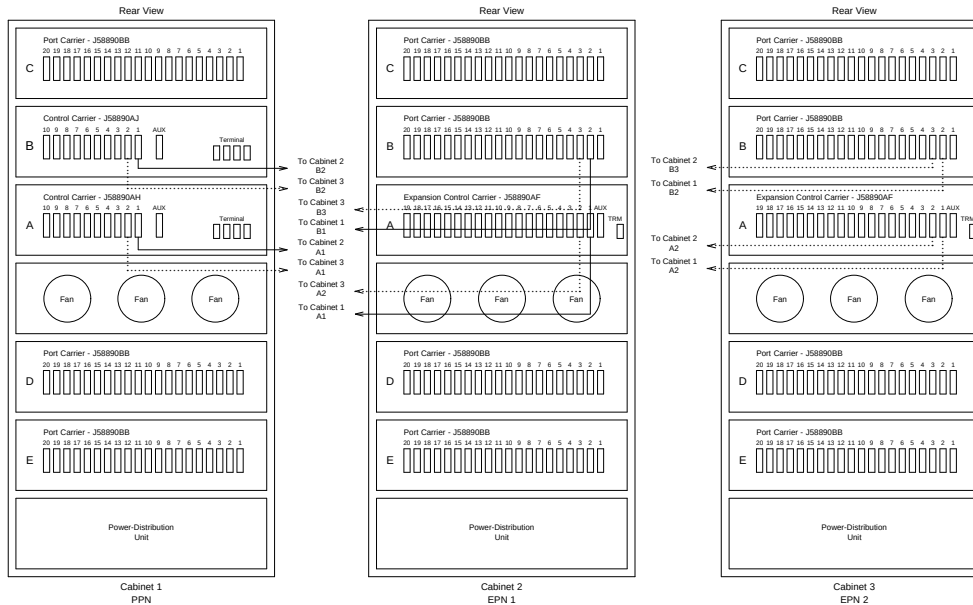
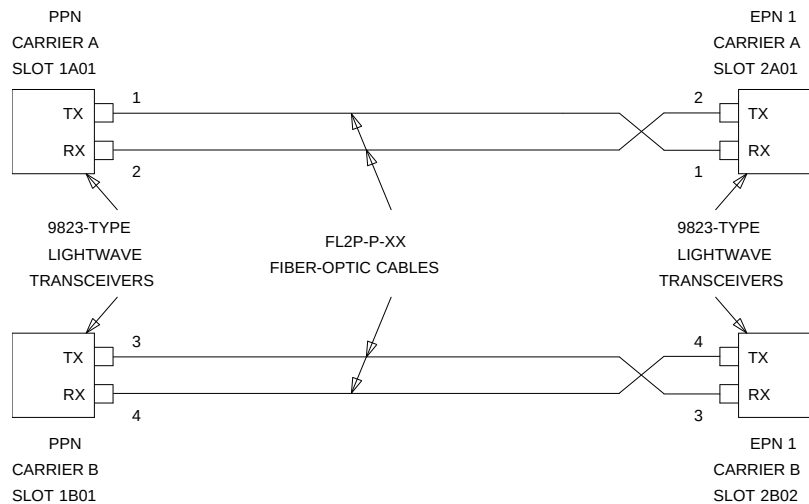
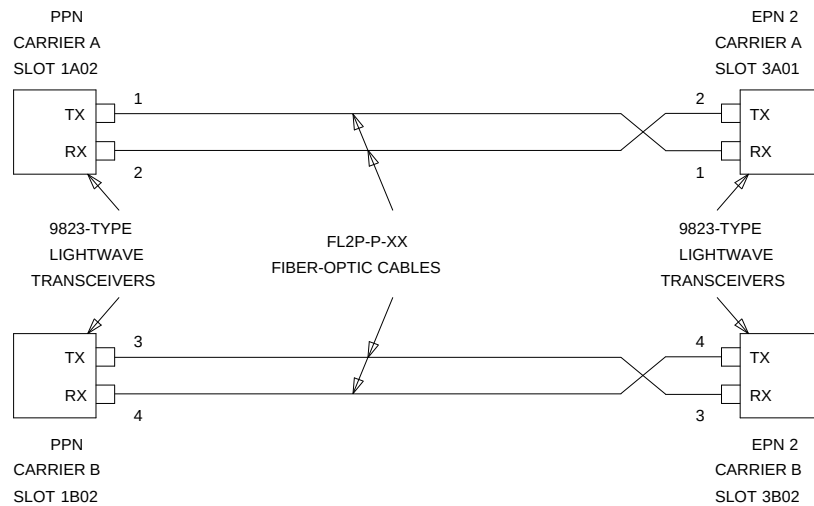
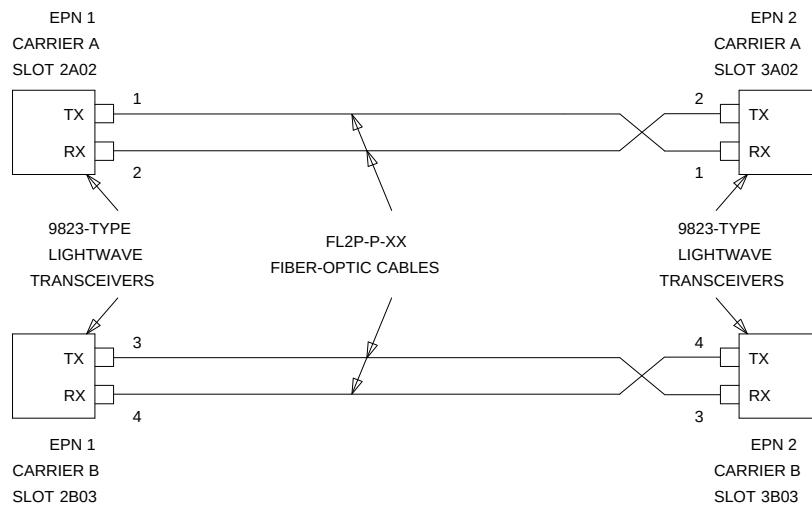

Figure 7-42. Critical-Reliability DEFINITY ECS Release 5 with Two or Three Port Networks
Figure 7-43. Fiber-Optic Connections PPN to EPN1
Figure 7-44. Fiber-Optic Connections PPN to EPN2
Figure 7-45. Fiber-Optic Connections EPN1 to EPN2
The connectors on the lightwave transceivers are labeled either "TX" (transmit) or "RX" (receive), while the fibers attached to each connector are numbered either "1" or "2." A viable fiber connection is only made when both fibers in each cable ("1" and "2") route from the "TX" connector of a port network to the "RX" connector of its adjacent port network. For an example, refer to Figure 7-43 on page 7-94.
1. Behind control carrier A of PPN cabinet 1 (see Figure 7-42 on page 7-94, Figure 7-43, Figure 7-44, and Figure 7-45):